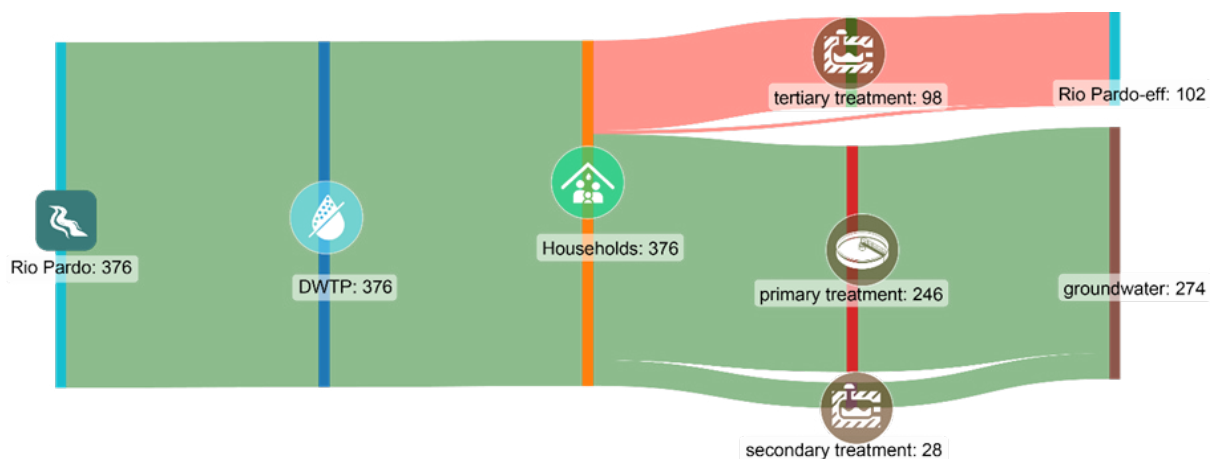

Figure 1: Partial uWFD considering the household water use only
3. Consider to start with a part of the entire diagram. For example, you could start making the water flow diagram only for the private households (Figure 1). It can still be used to make statements about the urban water management of a city. In Figure 1 for example: Is the amount of water provided to the households enough to meet the human right to water? Is a large proportion not safe for consumption? Is the used water discharged appropriately?